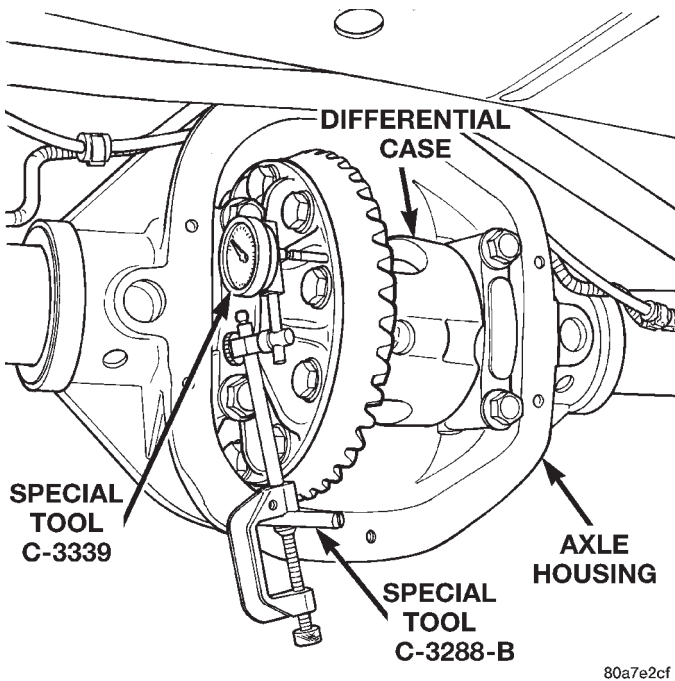

Fig. 65 Differential Side play Measurement
- (8) Thread guide stud C-3288-B into rear cover bolt hole below ring gear (Fig. 65).
- (9) Attach a dial indicator C-3339 to guide stud. Position the dial indicator plunger on a flat surface between the ring gear bolt heads (Fig. 65).
- (20) Position the dial indicator plunger on a flat surface between the ring gear bolt heads. (Fig. 65).